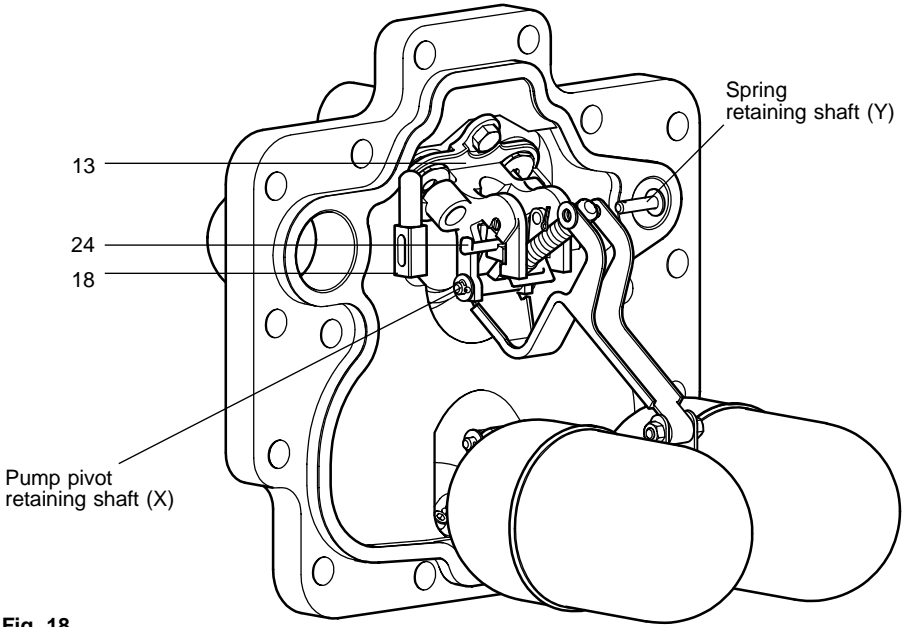

Fig. 18
4. Remove split pins, washers, and shafts (X and Y) from the top spring pivot and pump pivot points (See Fig. 18).
6. Draw the actuator arm downwards within its slots until the whole spring and actuator arm assembly with the exhaust valve comes free. It may be necessary to slide the exhaust valve (item 18) backwards against its internal spring to free it from the pump bracket guide (item 13).
8. Gently rotate the exhaust valve away from the tanged spigot of the actuator arm (item 24, shown in Fig. 18) being careful not to damage or lose the small exhaust valve compression spring.